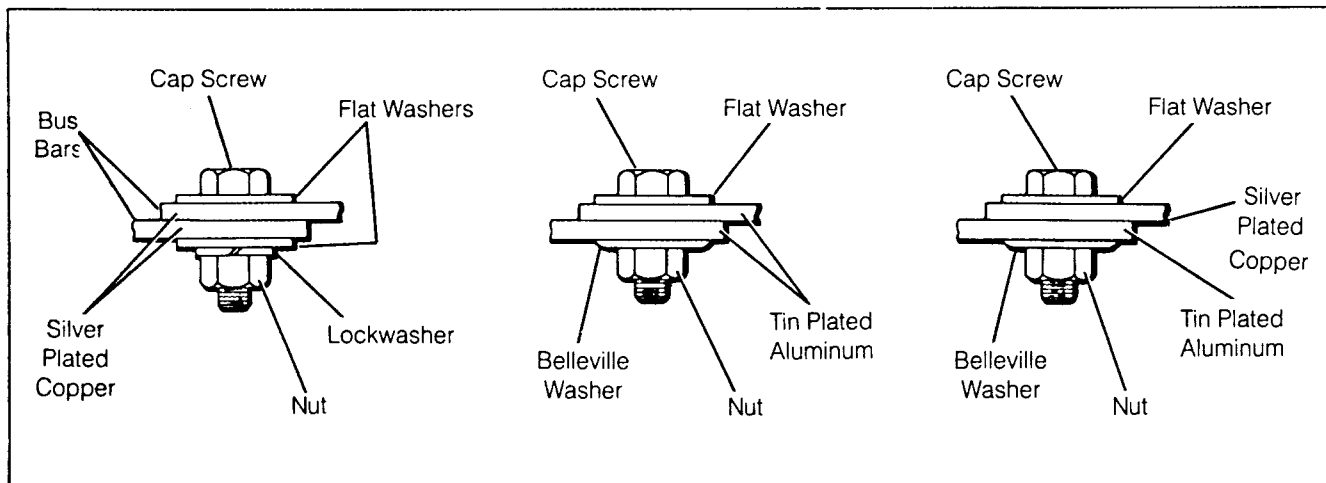

Figure 46. Bus Bar Joint Assembly
2. Assemble all joints as shown in Figure 46.
Notice in Figure 46 heavy washers are used on both sides of the bus bar joint — under the cap screw head as well as under the nut and lockwasher. These washers insure an evenly distributed force around each screw, producing a low resistance joint. The torque value of approximately 50 lb. ft. produces a joint of adequate pressure without cold flow.
the bottom of phase 3 and on the top of phases 2 and 1. On 15 kV switchgear, where insulation boots are used, put the nuts on the side with the deepest boot cavity. This normally would have the screw heads toward the back of the cubicle. Arrange the hardware as shown in Figure 46 with a round washer on each side of the joint and a lockwasher between the round washer and the nut. The only exception to this arrangement occurs when aluminum bus is used. In this case one "Belleville" spring washer replaces the round washer and the lockwasher under the nut with the concave side against the bus joint. When using 2000A and 3000A bus work certain spacers or links are required at bus joints to insure the current density of the bus. The conditions where these spacers are required vary with the type of bus joint. (See Figure 47.)